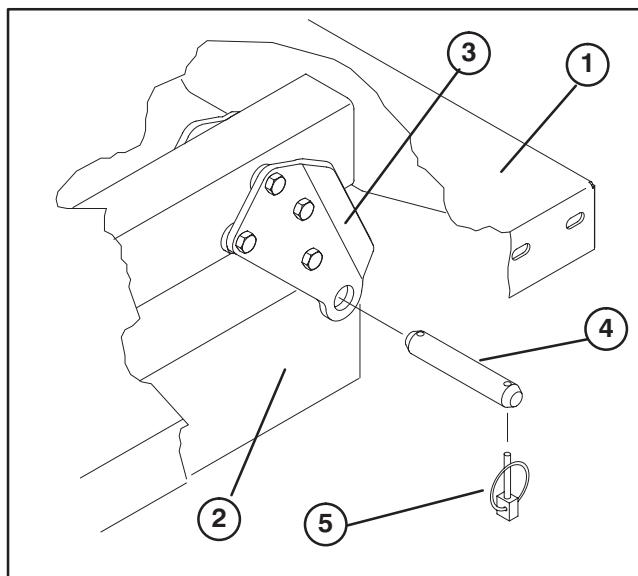

Figure 14
3. Remove clevis pins securing cylinder rod ends to bed mounting plates by pushing pins towards inside (Fig. 14).
4. Remove lynch pins and clevis pins securing pivot brackets to frame channels (Fig. 14).
**NOTE:** Assure rear pivot plates are bolted to the bed frame/channel so that lower end angles to the rear (Fig. 14).
- Carefully set bed onto vehicle frame aligning rear bed pivot plate holes with holes in rear frame channel and install (2) clevis pins and lynch pins (Fig. 14).